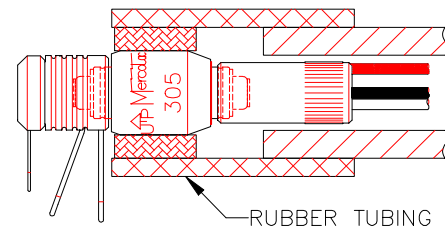

Fig 6 Vibration Isolation
8. Vibration and mechanical shock will reduce the life or cause slip ring failure. Some installations may require a shock isolating mounting, such as rubber tubing. <Fig 6>